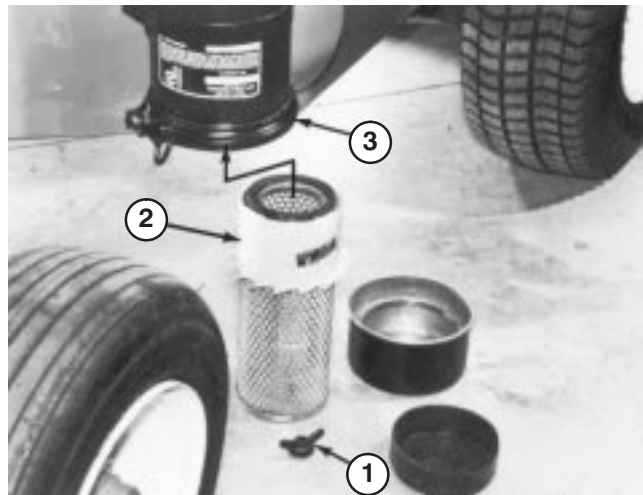

Figure 34
2. Remove wing nut w/gasket and slide filter element out of air cleaner body (Fig. 34).